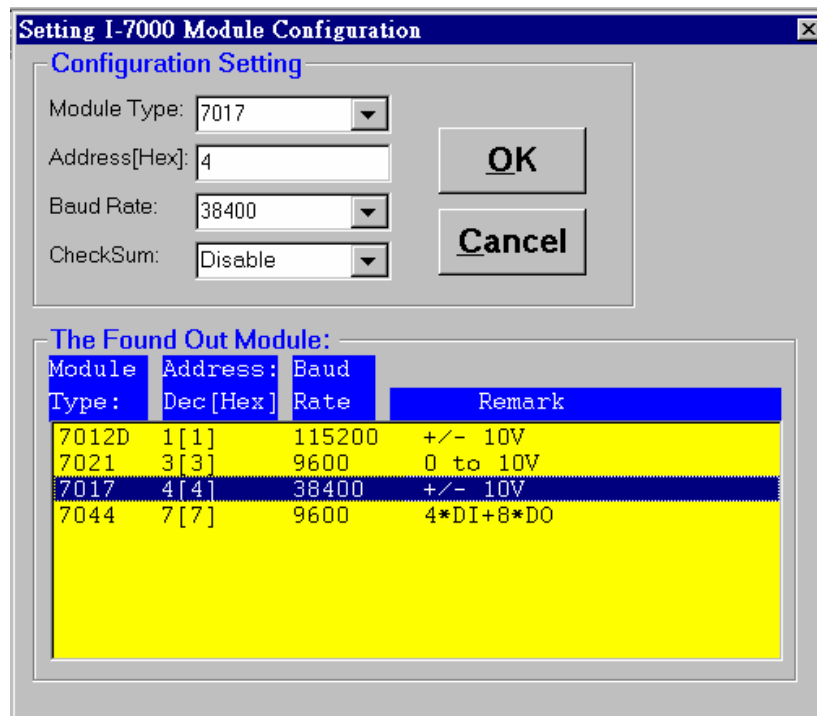

Fig 3-2. Accept the setting CB-7017 configuration.
step 2: Enter the exact baud rate, module address and checksum according to your CB-7017 configuration(please referring Fig 2-10) as Fig 3-2 shown. Then click the **OK** button to accept the configuration setting
Step 2: Enter the exact baud rate and module address according to your CB-7017. Then click the **OK** button to accept the configuration setting. Please referring Fig 3-2.